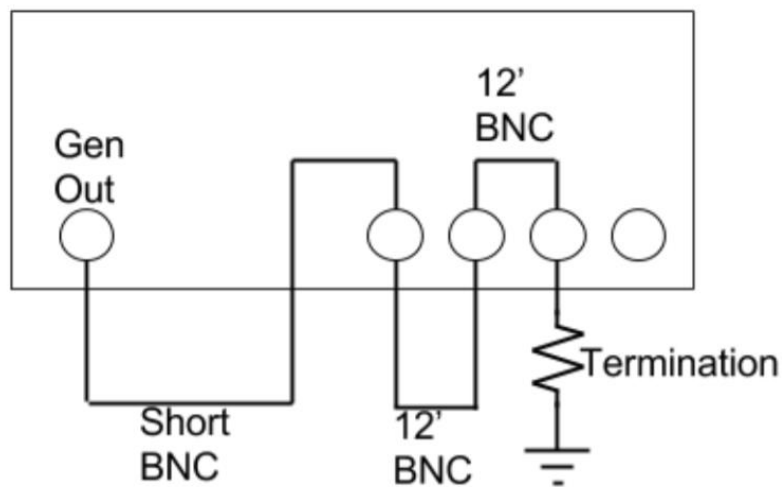

Figure 1
1. Consider an oscilloscope and function generator connected as shown in Figure 1. Calculate the voltage waveforms you expect to see at channels 1, 2 and 3 after Gen Out drives a 1V step onto the transmission line for the terminations listed below. Discuss both rising and falling edges.
2. Repeat your simulations of Figure 1 using a lossy transmission line element and an appropriate model to set your series resistance to 30milliOhm/m and then 10hm/m. How does this series resistance affect your measured waveforms? These links will help you implement a lossy transmission line model:
Required data in lab notebook: Schematics of simulations for figures 1, 2 and 3. Time domain traces for each channel on figures 1, 2 and 3, and comparisons to calculated traces from theory section.